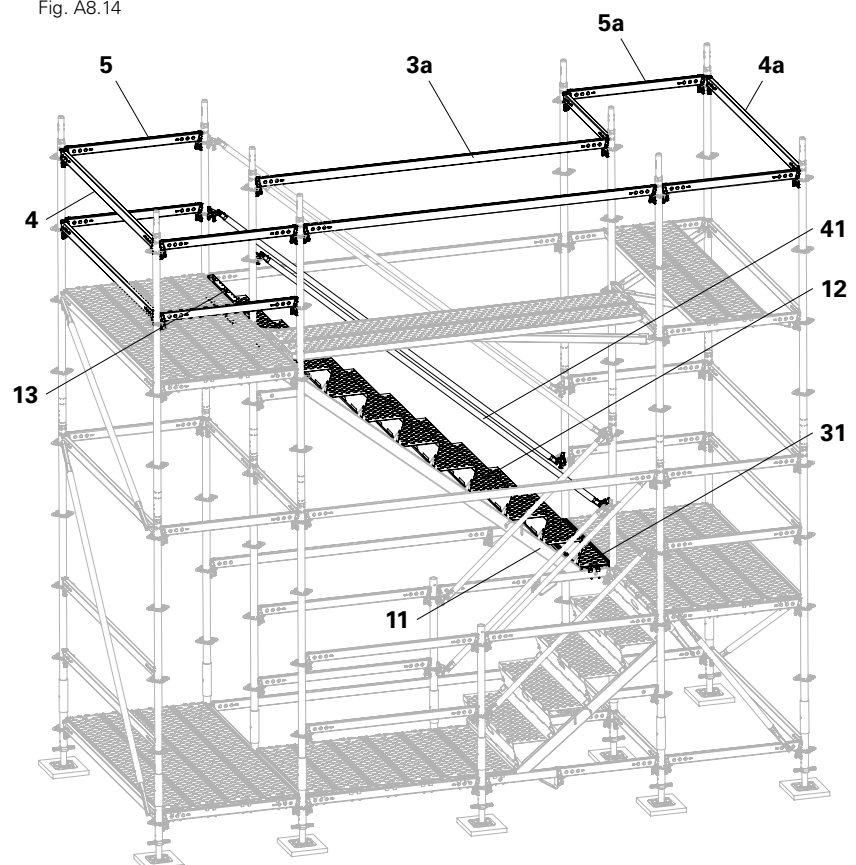

Fig. A8.15
7. Fit the horizontal ledgers (**3a + 4a + 5a**) as assembly guardrails. (Fig. A8.15)